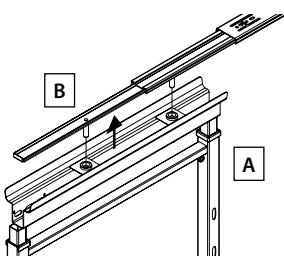

fig. 6
- 7)** Two pins in top slide (B) insert into mating bushings in the top of the frame (A) as shown in figure 6.